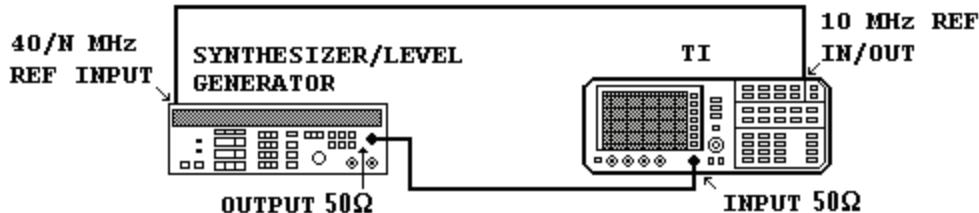

Figure 6. Frequency response - equipment setup.
- (14) Set synthesized signal generator frequency to 10 MHz.
- (15) Repeat (9) above.
- (16) Press TI **FREQUENCY** key then **[CENTER FREQ]** to 10 MHz.
- (17) Press TI **SPAN** key then **[SPAN WIDTH]** to 10 kHz.
- (18) Press **MARKER PEAK SEARCH** key.
- (19) Repeat (12) above.
- (20) Record measuring receiver indication.
- (21) Connect equipment as shown in figure 6.